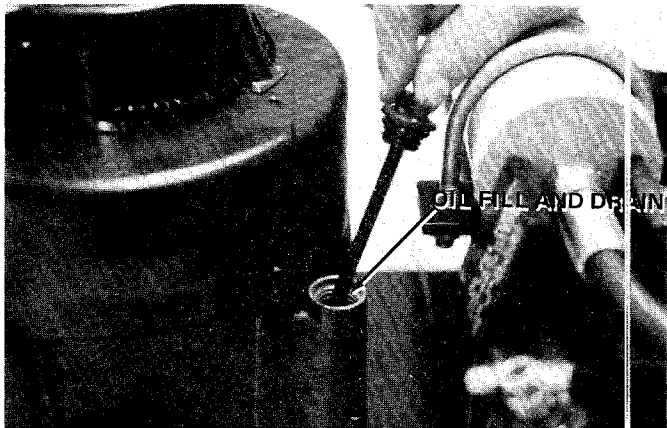

FIGURE 10.
1. Fill sump with oil as instructed in the separate engine manual. Drain and fill the engine from the same opening. See figure 10.